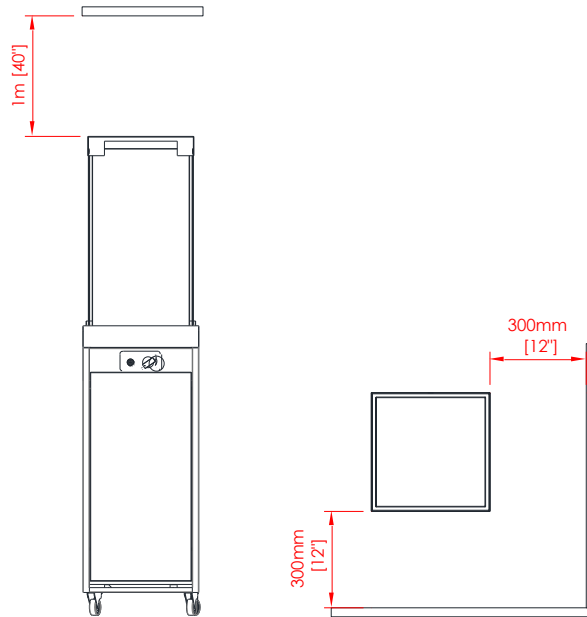

Fig 2 – Minimum distances
- This appliance must be kept away from flammable materials during use. Do not place any combustible materials within a distance of 0,3 m of FARO and 1 m over the appliance (Fig 2).